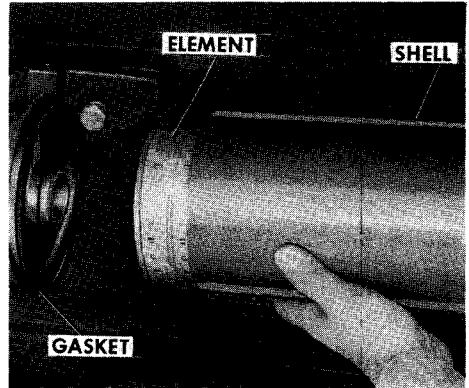

Figure 7
2. Pull the contaminated element out of the shell, Figure 7, and flush the shell and filter base with clean fuel.
3. Install a new Case Filter Element on the bolt. Be sure the element is installed as shown in Figure 7, and BE CAREFUL not to push the rubber grommet seal out of the element, Figure 7.
4. Install the new gasket provided with the element, Figure 7.